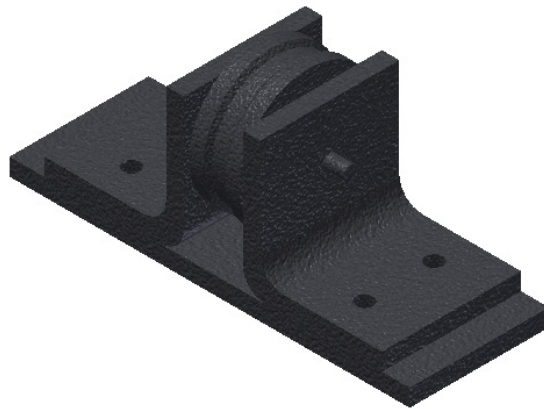
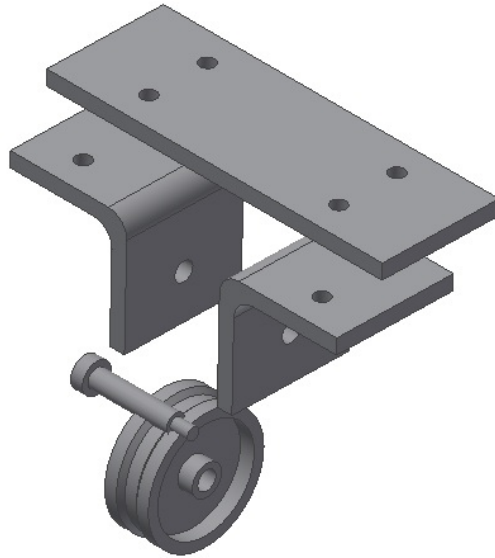
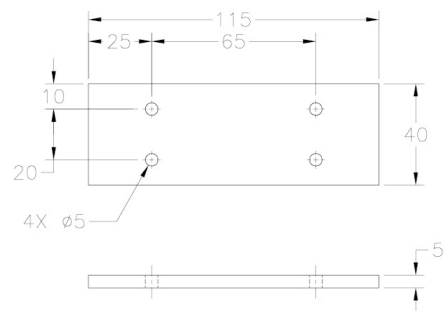

Figure 18-63 The assembly model for Tutorial 3
Figure 18-64 The exploded view of the assembly
Figure 18-65 The dimensions for the Base
In this tutorial, you will carry out static and model analysis of the Wheel Support assembly, as shown in Figure 18-63. The exploded view of the assembly is shown in Figure 18-64. The dimensions and boundary conditions of the assembly parts are shown in Figures 18-65 through 18-68.
1. Create all the components of the wheel support assembly as separate part files. Next, save the files with their respective names, refer to Figures 18-65 through 18-68. The files should be saved at location *C:\Inventor\c18\Tutorial3*.